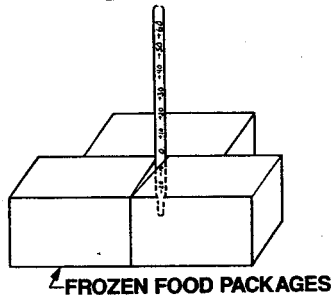

Figure 2
- In freezer section, put thermometer snugly between frozen food packages. See Figure 2.